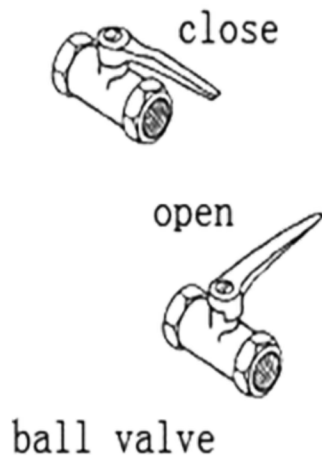

FIGURE 6
6. Close the compressor entry valve (24, Plate one) and the supply valve for the down-the-hole hammer, as shown in Figure 6.
9. Set the distribution levers for rotation (25, Plate one) and advance (13, Plate one) to the closed or rest (central) position (N).